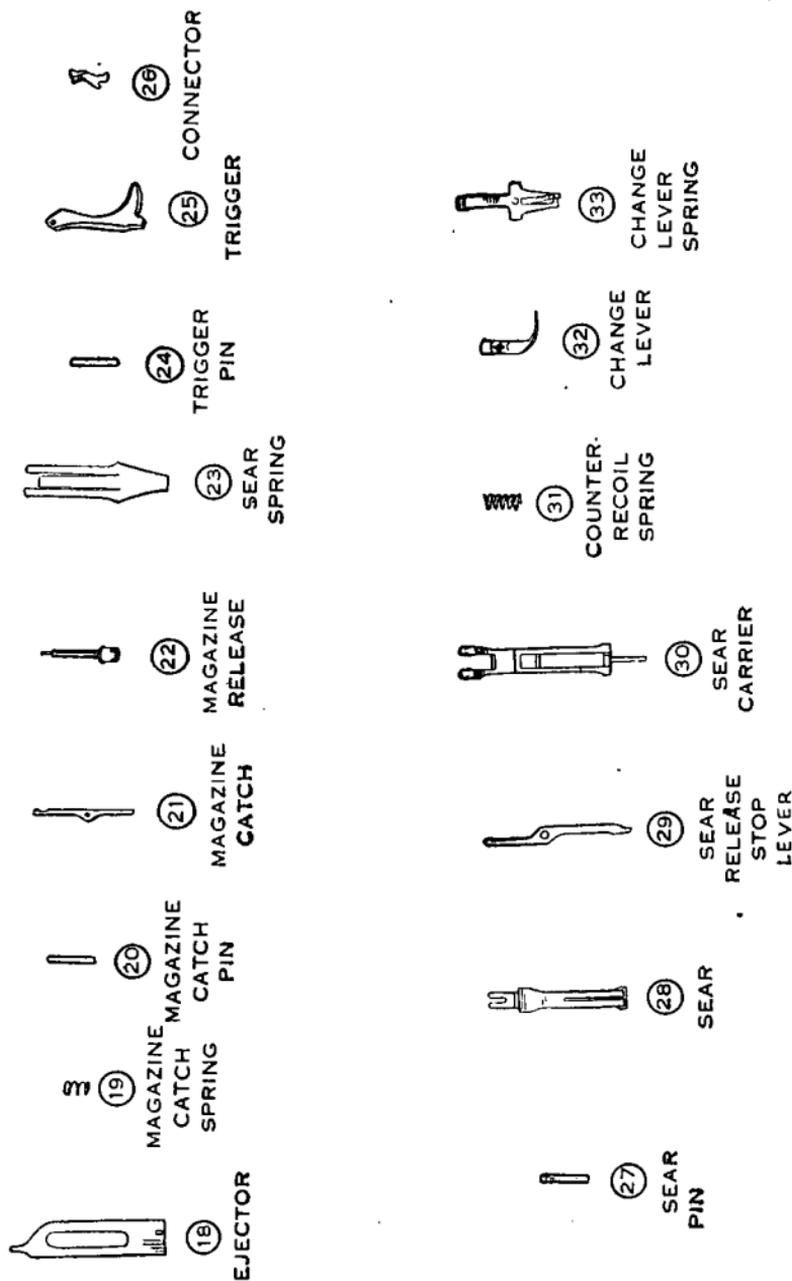

FIGURE 3.—Trigger group.
(2) *Trigger group* (fig. 3).—(a) Depress ejector lock with the point of a dummy cartridge. Hold thumb in front of magazine catch spring to prevent it from flying out, and then slide ejector (18) out of its seat. Remove magazine catch spring (19). Remove magazine catch pin (20), lift out magazine catch (21) and magazine release (22).
b. *Trigger group* (fig. 3).—(1) Replace the change lever spring (33) with sear release stop lever spring up and to the rear, by pressing down and forward on the rivet with the thumb of the right hand and engaging the ears of the change lever spring in their slots in the rear of the trigger guard. Then, *being careful not to bend or break the sear re-*